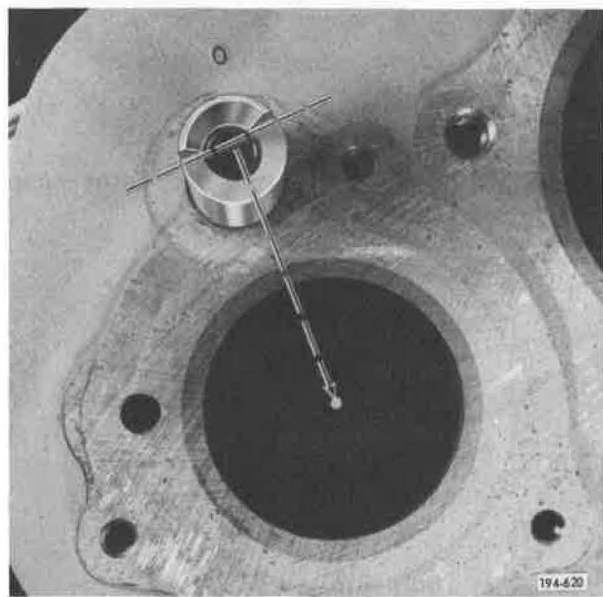

Figure 5-473. Alignment of Idler Shaft
3. Insert reverse idler shaft partially into rear case, taking care to align flats on end of shaft with centerline of countershaft bore. See Figure 5-473.